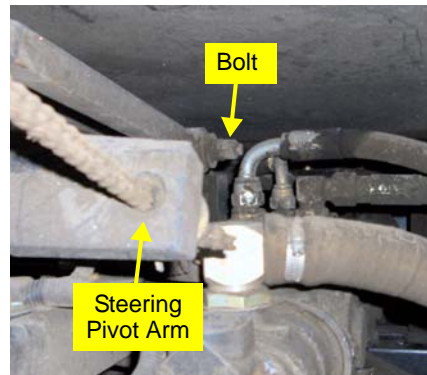

Figure 5a: Steering Bracket location
- a. Locate the steering control linkage under the cab. The head end of the cylinder will mount to the steering pivot arm and the rod end of the cylinder will mount on the bolt connecting the left control arm to the hydro arm. (Figure 5a)